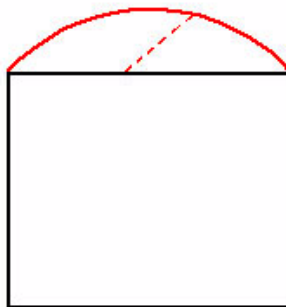

Figure 141
- Click and drag the middle of a segment to create an arc. See figure 141.